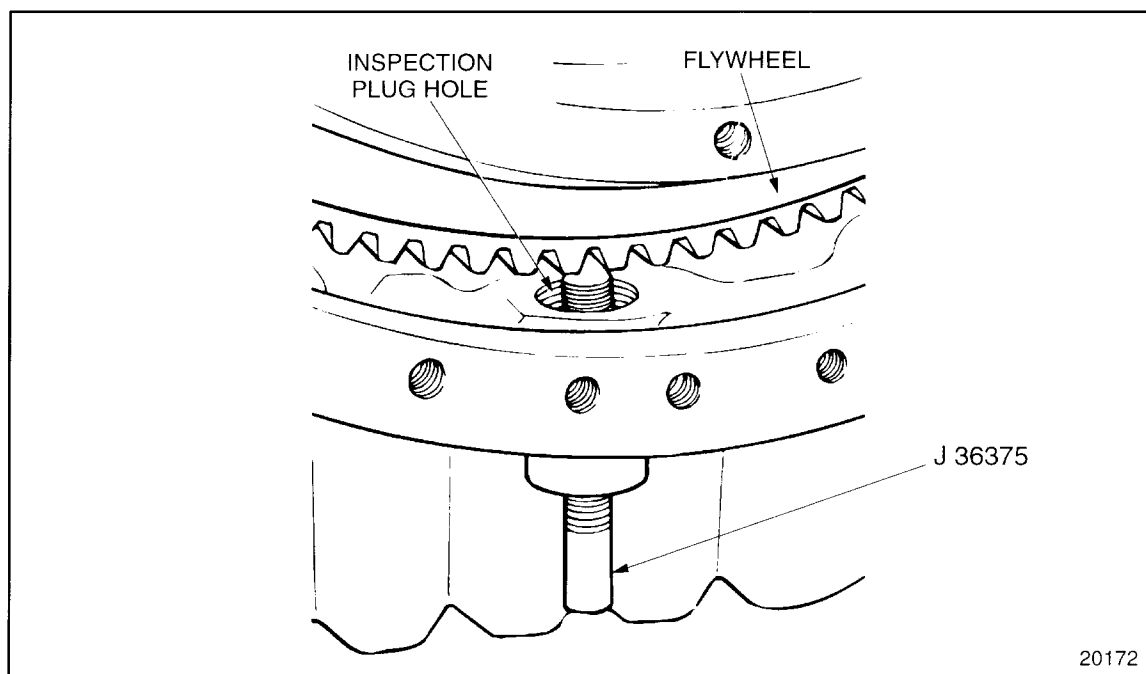

Figure 9-22 Flywheel Lock
1. Remove the inspection plug in the bottom of the flywheel housing and install the flywheel lock tool, J 36375-A. See Figure 9-22.
2. Thread the center screw of the flywheel lock, J 36375-A, into the flywheel housing until the tip of the tool rests between two teeth of the flywheel ring gear. Tighten the knurled knob finger-tight. See Figure 9-22.
1. If removed, install flywheel locking tool J 36375–A through the inspection plug hole in the bottom of the flywheel housing. See Figure 9-22.